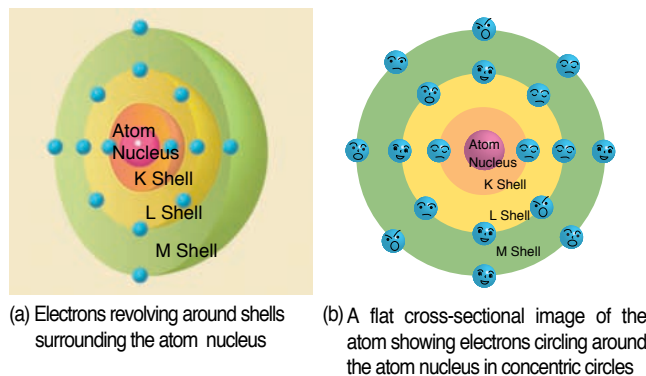

Figure 3 Model of Atom Structure
variety of particles with widely differing chemical properties known as 'atoms'. Different types of atoms are generally known as 'elements'. Atoms are approximately 0.0000001cm (10⁻⁸, or a hundred millionth of a centimetre) in size; the world of the atom is miniscule. To visualize just how tiny atoms are - there are 100 million of them in only one face of the 1cm dice illustrated in Figure 2 ! Even with the aid of the latest in scanning tunneling microscope technology, it is only possible to view the layout of atoms in this microscopic world. The atom itself has yet to be seen by man; but, thanks to the efforts of many scientists, a model of the atomic structure has been produced that even the layperson can understand. To help picture the structure of an atom, imagine you have been magically shrunk and transported inside one. The atom structure in Figure 3(a) shows a central nucleus surrounded by multiple shells or 'shells' around which electrons revolve.^{*2} These shells surround the nucleus, becoming progressively larger the further they are from it. The 3-dimensional representation in Figure 3(a) is rather complex, and a flat image, similar to the one in 3(b), showing electrons orbiting the nucleus in concentric circles, is commonly used. As you know, there are negative and positive (or plus and minus) electrical charges, and the electrons are negatively charged. The nucleus of the atom, on the other hand, is positively charged.^{*3} As the nucleus is housed inside the atom, obviously it is smaller than the atom itself, and is thought to be approximately 0.0000000000001cm (10⁻¹³cm). The electrons are believed to be approximately the same size as the atom nucleus, although their precise size remains unknown.
The gallium (Ga), arsenic (As) and phosphorous (P) crystal used in LEDs is composed of a vast number of atoms and a huge number of electrons. For simplicity, we shall track the activities of an individual electron. While rotating, the electron circulates around each shell, as illustrated in Figure 3. An important point to remember is that when the electron rotates in the shell furthestmost from the atom nucleus (shell M in the diagram), **it is not greatly influenced by the nucleus and can easily free itself from the atom's structure**. Weird and wonderful things happen in the world of the atom, as we shall now go on to see.
^{*2} There are many different ways to explain and illustrate the atom structure, but we have chosen the style in Figure 3 because it is the most simple to understand.